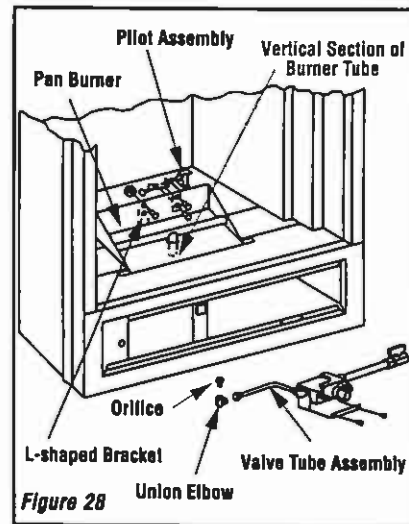

Figure 28
**Step 3.** Remove the grate. From inside the control compartment, undo the valve tube assembly from the union elbow, remove the orifice from the vertical section of the burner tube. See *Figure 28*.